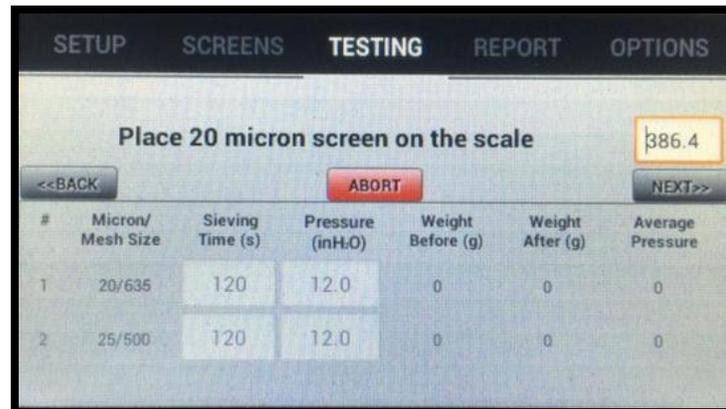

Figure 43
16. The software will prompt you to place the empty Test Sieve Screen on the balance. The weight of the Test Sieve Screen will be displayed on the right side of the main window. Should it be equal with the weight displayed on the balance, press the **NEXT** button. (See Figure 43)